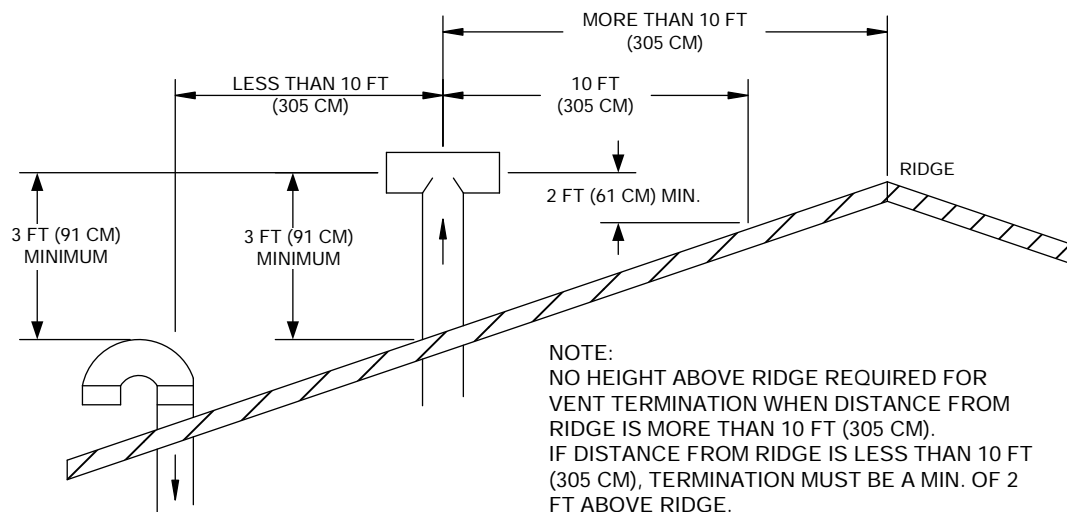

Figure 4. Roof-Mounted Combustion Air Inlet & Vent Outlet Installations
- Combustion air inlet must be 3 ft below any vent outlet within 10 ft. See Figure 4.
- Combustion air inlet must also face away from the vent outlet. See Figure 4.
7. When using sealed combustion, the combustion air inlet and vent outlet must be located on the same surface (same wall, roof, etc.). See Figures 4 and 5.